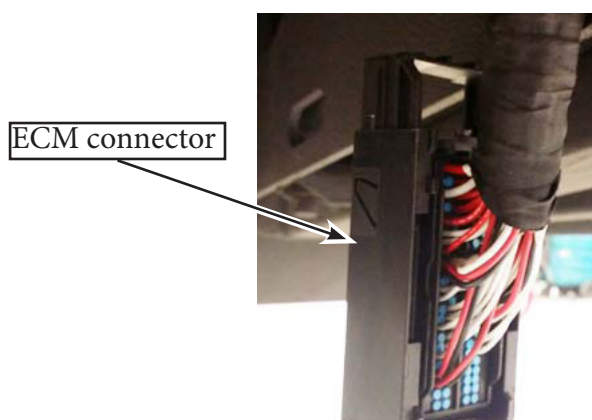

Figure 32 - Front-to-Back Cable Routing to the ECM Connector
- 2.19. Remove the ECM connector back shell and route the front-to-back cable towards the connector (see Figure 32).